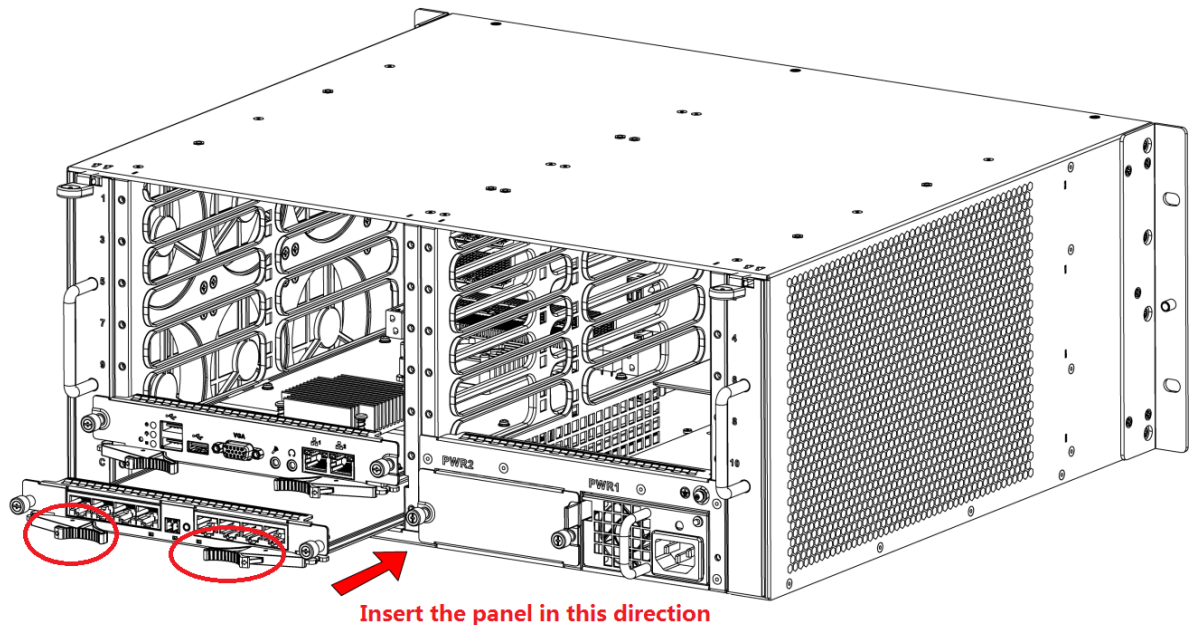

Figure 1-6
Step 2 Insert main control panel and control panel into slots of the case according to Figure 1-6, and tighten screws.